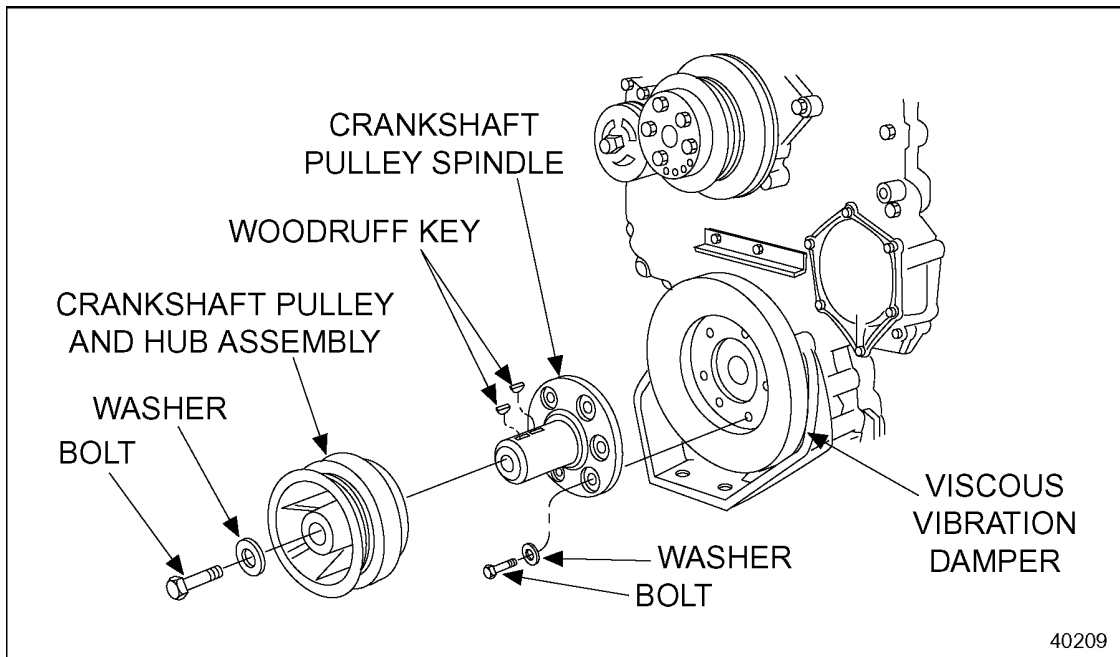

Figure 1-207 Crankshaft Pulley and Hub Assembly Installation with Spindle
6. Install the crankshaft pulley spindle over the guide studs, onto the crankshaft and against the vibration damper. The crankshaft pulley spindle may be installed in any position. See Figure 1-207.